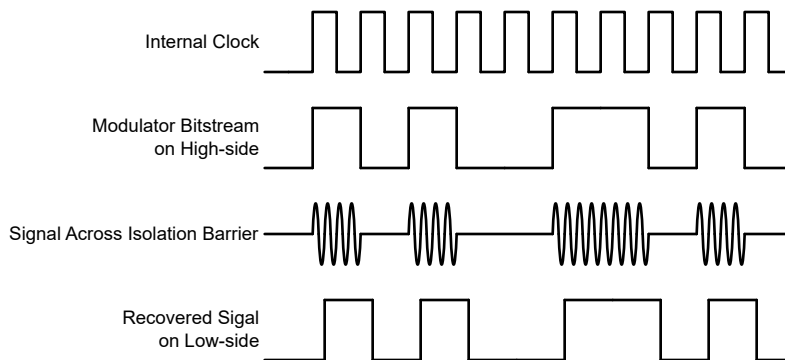

Figure 7-4. OOK-Based Modulation Scheme
As shown in Figure 7-4, the AMC0x06M05-Q1 uses an on-off keying (OOK) modulation scheme to transmit the modulator output bitstream across the SiO₂-based isolation barrier. The transmit driver (TX) is illustrated in the Functional Block Diagram. TX transmits an internally generated, high-frequency carrier across the isolation barrier to represent a digital one. However, TX does not send a signal to represent a digital zero. The nominal frequency of the carrier used inside the AMC0x06M05-Q1 is 480MHz.